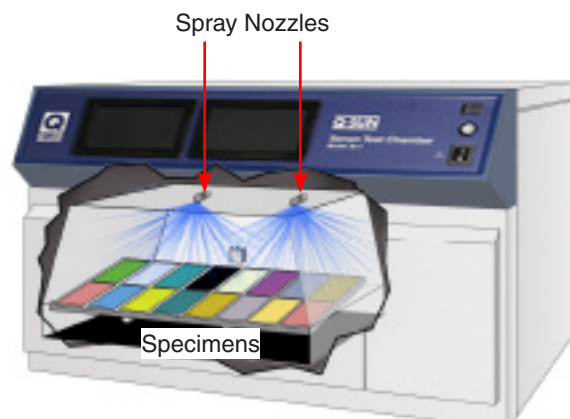

Figure 8b: Cut-away drawing showing spray nozzle location in test chamber.
- Located in test chamber (Figure 8b)